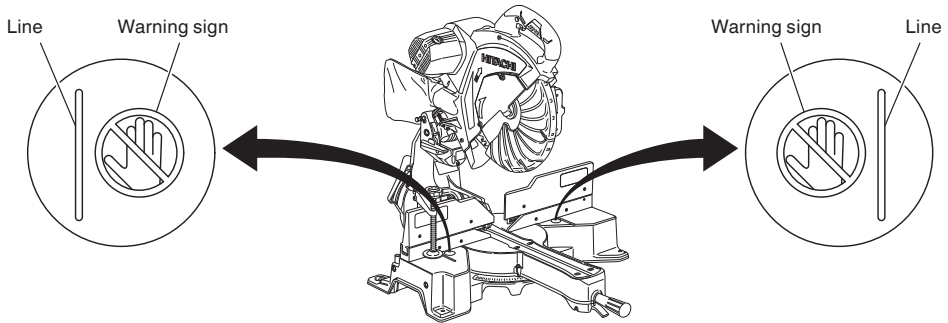

Fig. 21
- * Never place your limbs inside of the line next to warning sign while the tool is being operated. This may cause hazardous conditions (see Fig. 21).